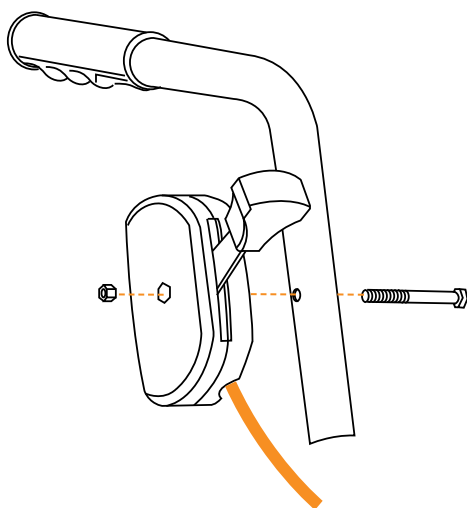

Figure 8
2. Push a threaded hex bolt through the base of the lever and secure with a nylock hex nut (see Figure 8).